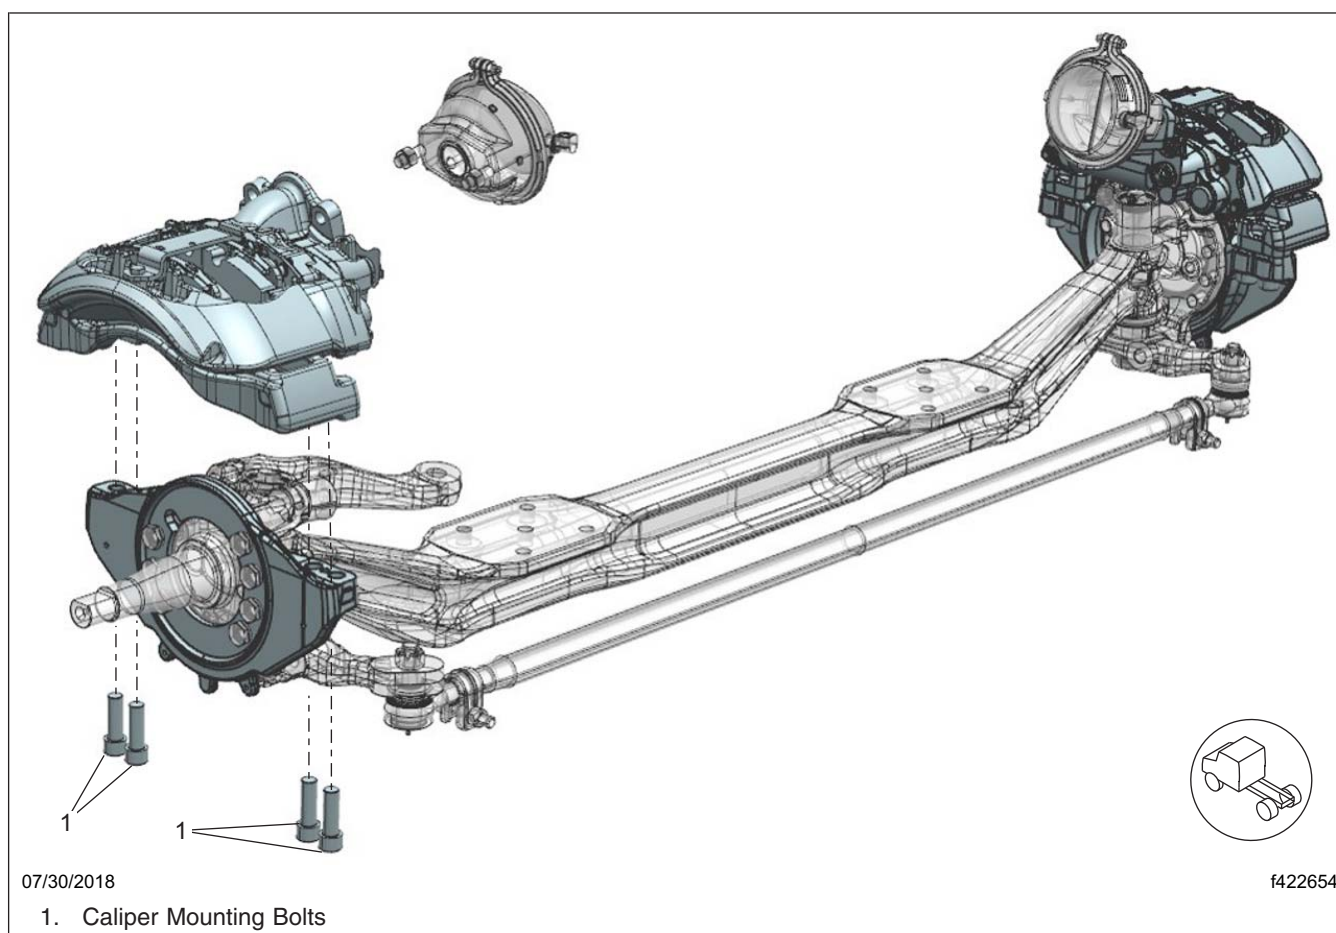
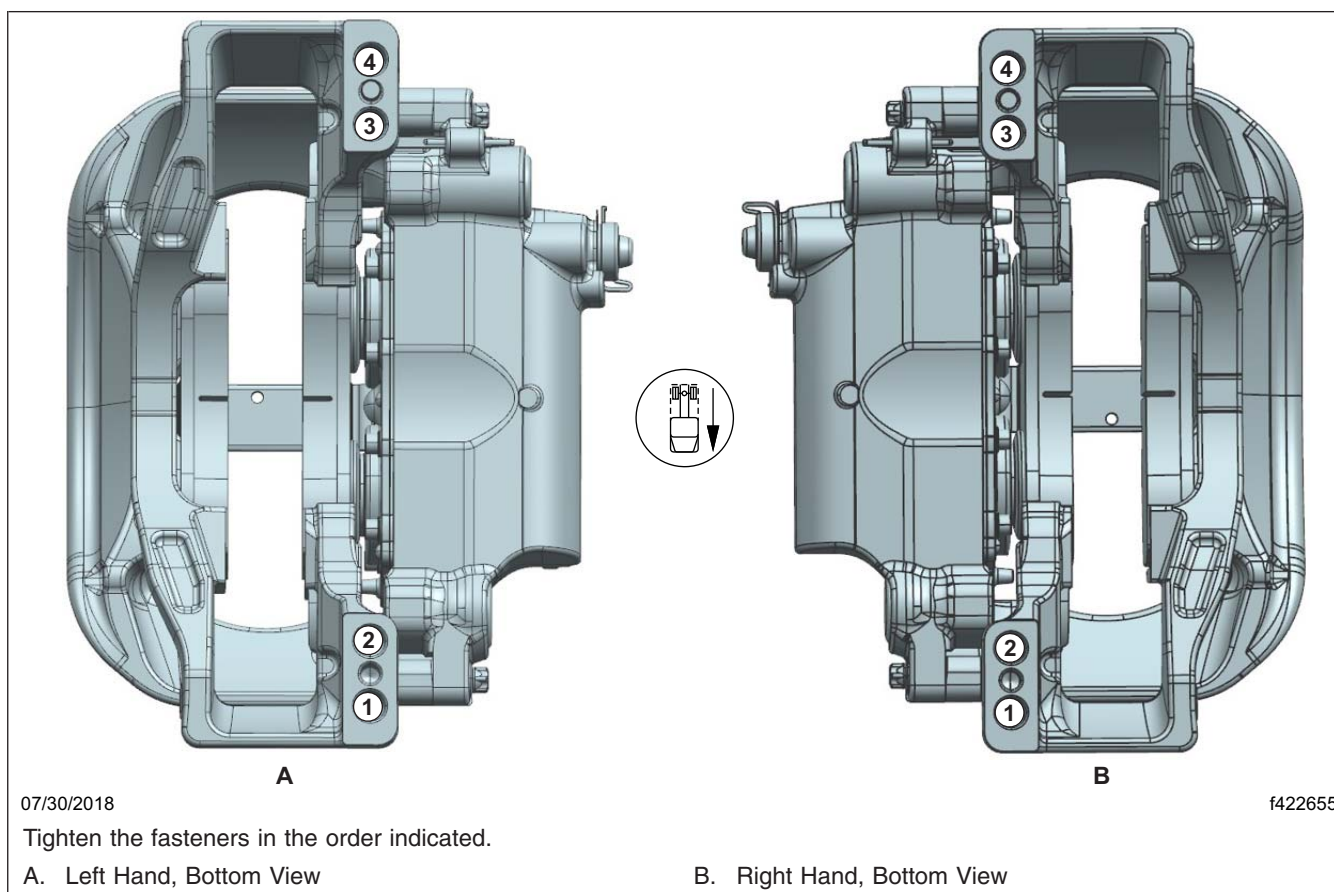

Fig. 5, Meritor Radial Mounted Caliper
Fig. 6, Tightening Pattern, Meritor Caliper
5. Align each caliper/carrier assembly with the rotor by pushing the fixed pin side of the caliper against the shelf on the torque plate, then install the caliper/carrier assembly using new caliper mounting bolts. See Fig. 5 and Fig. 6.
6. Tighten the carrier mounting bolts in two steps, using the pattern shown in Fig. 6.